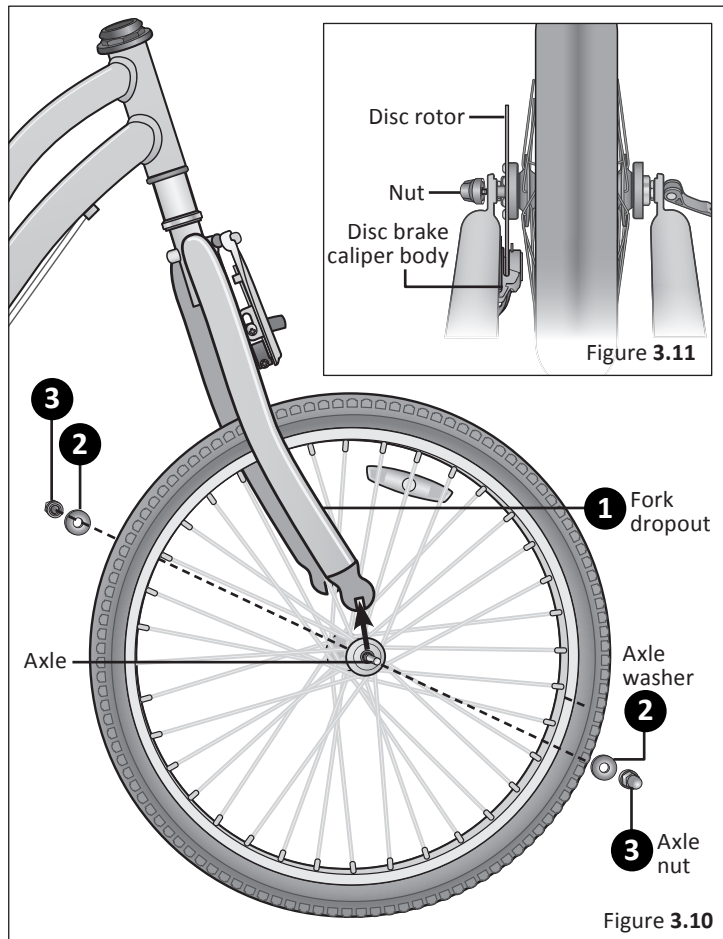

Figure 3.10
- 1 Position the front wheel between the front fork legs with the axle resting inside the fork drop outs. **Note:** If the front wheel has a disc brake insert the disc rotor into the slot on the caliper body as you insert the wheel axle into the fork drop out. **Important!** Be sure the wheel is as **centered** as possible between the fork legs. Figure 3.10